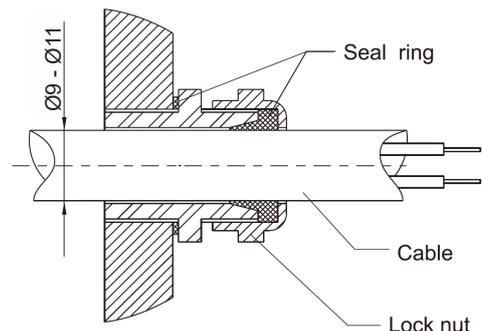

Fig. 2
- The outer diameter of the cable should be $\varnothing 9\text{--}\varnothing 11\text{ mm}$ (see Fig. 2). Only cables that properly fit the waterproof cable connector should be used. Otherwise, water may enter the actuator through the connector and damage internal components.